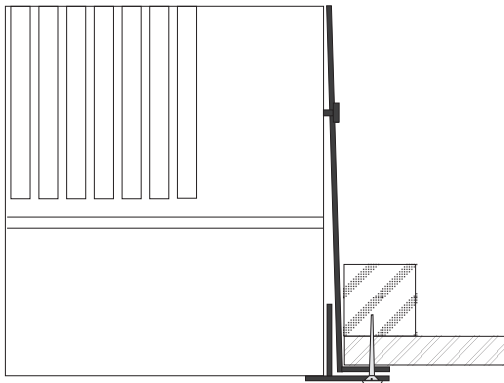

Fig 1
1) Locate the brackets flush with the front of the heater. Place unit in ceiling from below and secure brackets with woodscrews provided.(see Fig 1). Ensure sufficient space is left to allow the insertion of the grille frame between heater and bracket. This option may require electrical connection prior to positioning. The grille frame is then positioned and fixed with the 2 round headed screws provided.